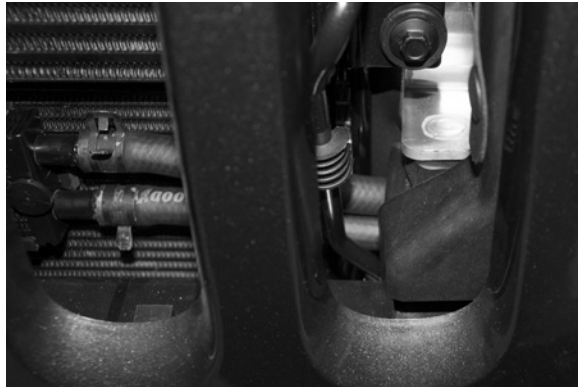

Figure 35
9. Install the cooling module back into the body. Notice the positioning of steering cooler lines shown in Figure 35.